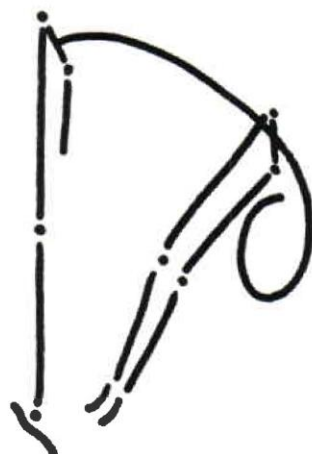

Fig. 3. The rounded back indicates flexibility of the spine, and abdominal tone both necessary to the ease of pelvic motions.
- c. Combined upper and lower abdominals—also active back and hamstring stretching. Patient comes to sitting position with well rounded back and arms reaching to toes and slightly beyond. (Fig. 3.) Patient learns action of the entire abdominals and stretches back muscles. Abdominals very important to pelvis motions.)